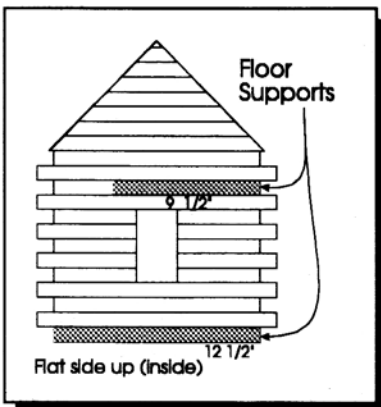

Figure 5- Right Side Wall Floor Supports
d. Glue an extra 12 1/2" piece to the inside bottom of the flat side for a 1st Floor Support and a 9 1/2" piece to the flat side (inside) of the eleventh piece from the bottom for a 2nd Floor Support as shown in Figure 5.